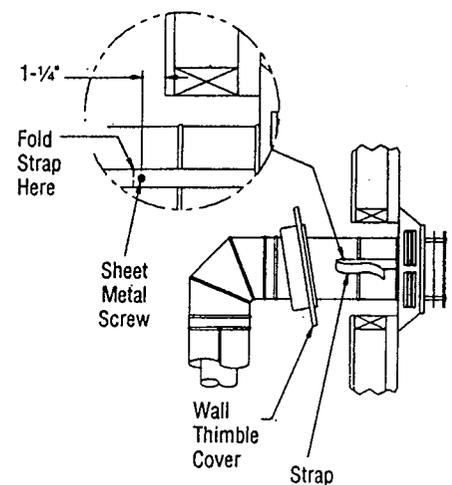
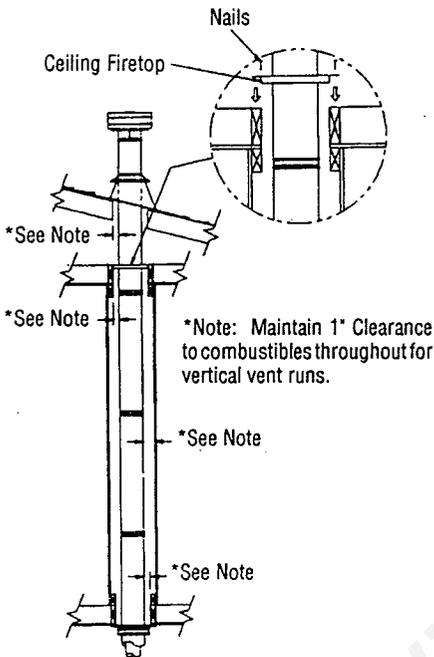

Figure 21
Figure 26
F. Slide the appliance and vent assembly toward the wall, carefully inserting the vent pipe into the vent cap assembly. It is important that the vent pipe extended into the vent cap a sufficient distance so as to result in a minimum pipe overlap of 1-1/4 inches. Secure the connection between the vent pipe and the vent cap by attaching the two sheet metal strips extending from the vent cap assembly into the outer wall of the vent pipe. Use two sheet metal screws provided to connect the strips to the Pipe Section (Figure 21).
4. For multi-story vertical installations, a Ceiling Firestop (Dura Vent Part No. 963) is required at the second floor, and any subsequent floors (*Figure 26*). The opening should be framed to 10-inch x 10-inch inside dimensions, in the same manner as shown in *figure 21*.
5. Vent runs should never include more than three (3) 90 degree Elbows or six (6) 45 degree Elbows.